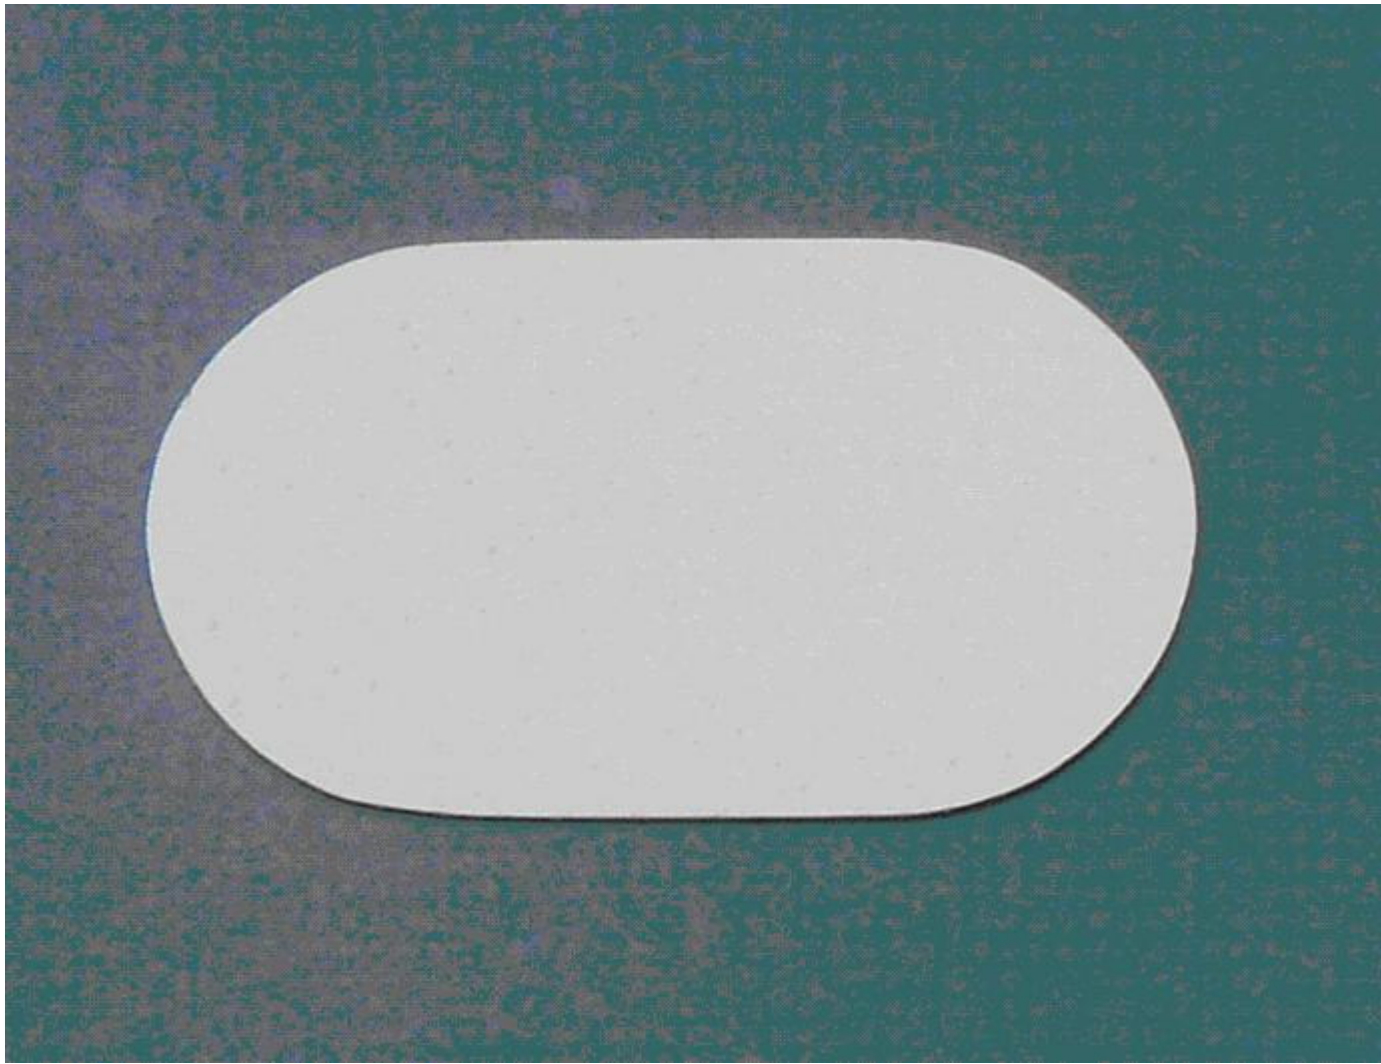

Fig. 9
21. Attach the access panel (fig 9) using 6 self tapping screws.